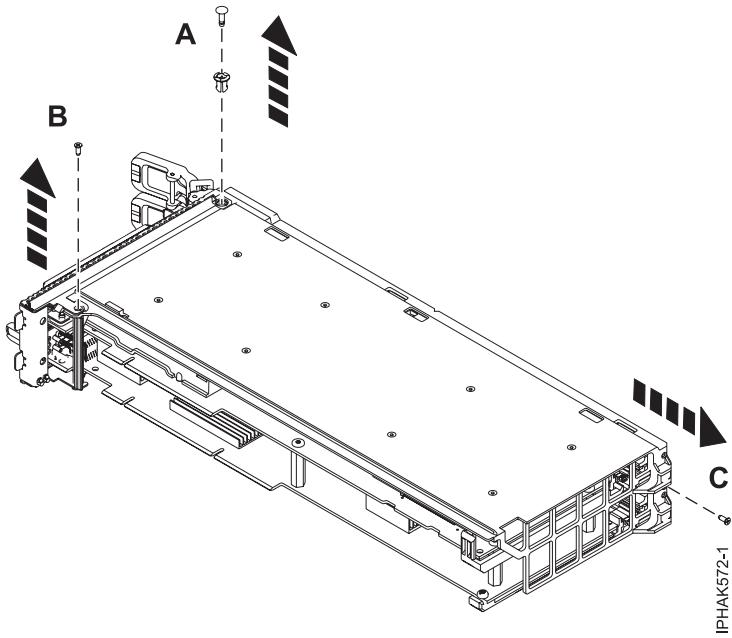

Figure 65. Removing the push pin and screws
3. Remove the push pin (A) from the top of cassette assembly by the tail stock. See Figure 65 on page 76.
4. Remove the screw **(B)** from the bottom of the tail stock. See Figure 65.
5. Remove the screw **(C)** from the rear of the cassette assembly. See Figure 65.